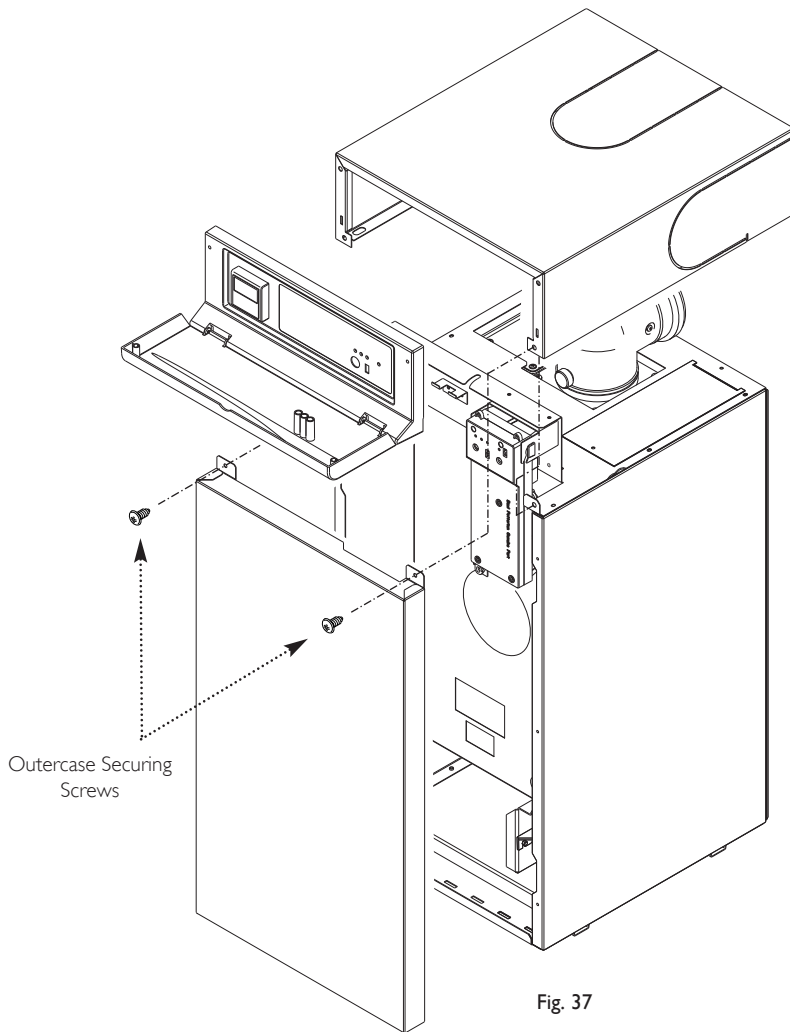

Fig. 37
1. Refit the case top panel and front door, securing with the screws previously removed (Fig.37).